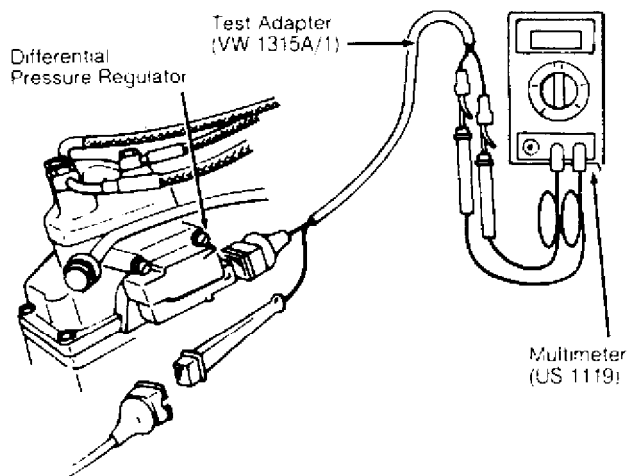

Fig. 4: Testing Oxygen (O2) Sensor (All Models Except Vanagon)
1) Ensure exhaust system is not leaking. Warm engine to normal operating temperature with all accessories off. Remove differential pressure regulator connector. Connect Wiring Harness Adapter (VW 1315 A/1) in series. See Fig. 4.